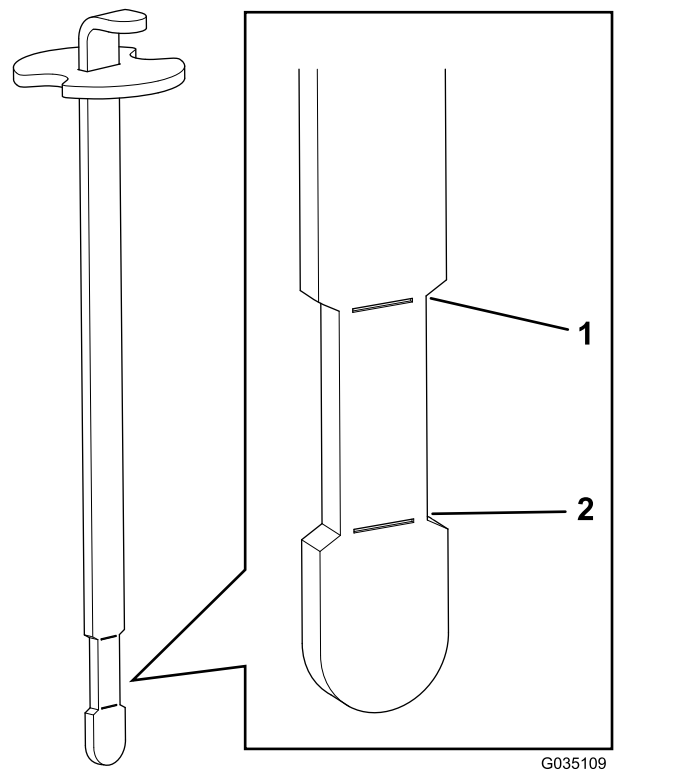

Figure 40
6. Insert the dipstick into the filler neck; then remove it and check the level of the fluid (Figure 40).